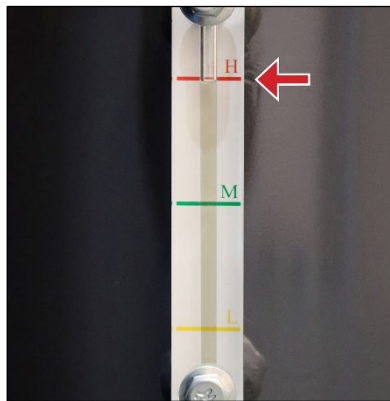

Figure 6 Full Oil Level Indication
- e. Close the oil drain ball valve and reinstall the oil drain plug. Fill the air-oil receiver with fresh lubricating oil until the oil level reaches the high ('H') limit red line on the oil level gauge as shown in Figure 6. Reinstall and tighten the screw-plug in the oil filling port.